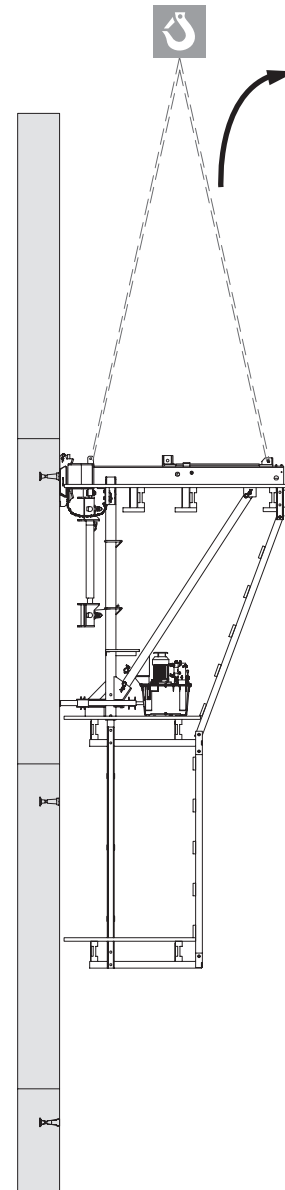

Fig. E2.02
7. Unhook the climbing unit. (Fig. E2.02)